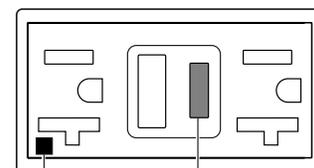

Figure 74. GFCI Receptacle (OFF)
4. Press the **TEST** button (Figure 74) on the GFCI receptacle and verify that the status LED turns **OFF**.